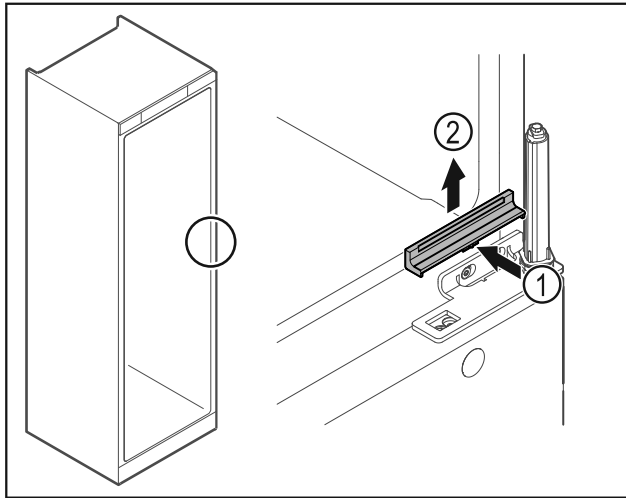

Fig. 32
- Gently press the middle of the cover Fig. 32 (1) and lift it off Fig. 32 (2).